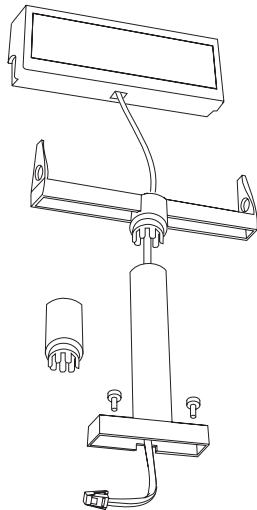

Figure 44. Attaching the distributed customer display cable
- a. Route the distributed customer display cable through the mounting post (and post extension, if used) and plug the cable into the display, as shown in Figure 44.